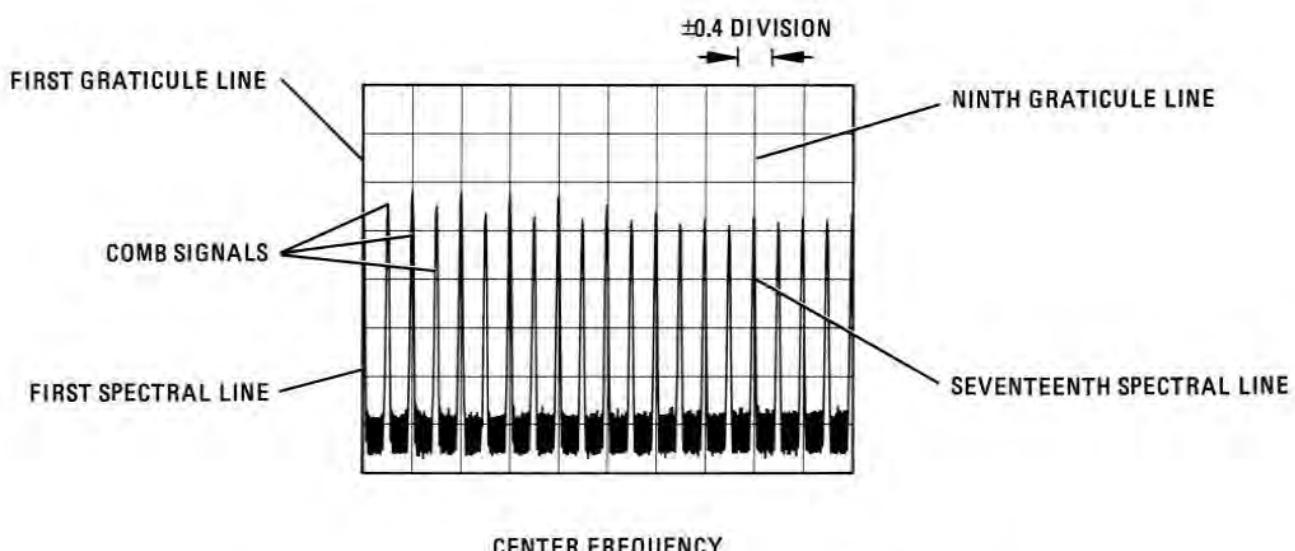

FIGURE 4-3. FREQUENCY SPAN ACCURACY MEASUREMENT FOR SEVENTEENTH SPECTRAL LINE
5. Set comb generator COMB FREQUENCY - MHz for 10-MHz comb. Set spectrum analyzer FREQ SPAN/DIV to 20 MHz. Adjust TUNING control to position one spectral line at first graticule line. Measure error between 17th spectral line and ninth graticule line as shown in Figure 4-3. Error should be no greater than ± 0.4 division.